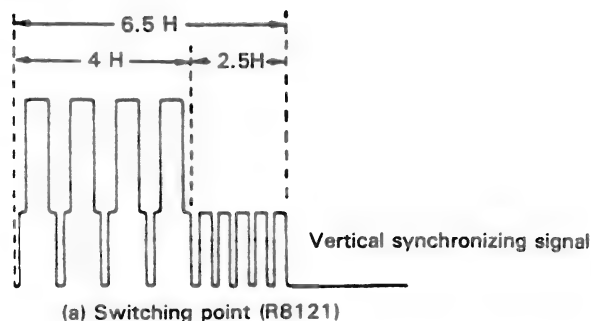

Figure 2-2.
2. Using the puls (-) trigger slope of the oscilloscope, adjust R8121 (SW POINT) to provide a waveform of  $6.5 \pm 0.5$  H as shown in Fig. 2-2.